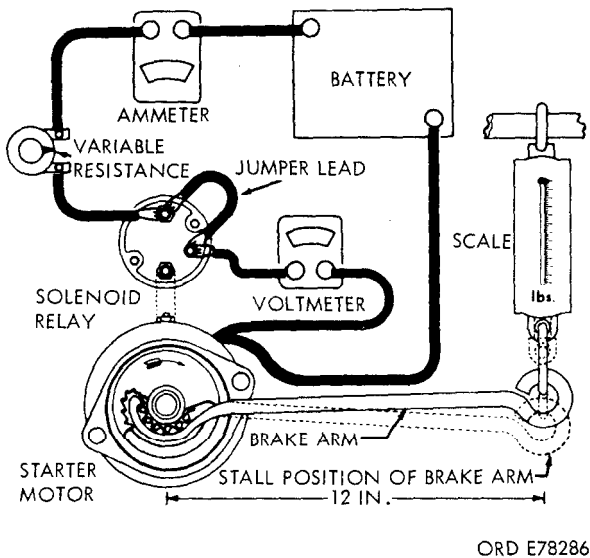

Figure 4-36. Lock-torque test wiring diagram.
b. *Lock-Torque Test.* Connect the starter as illustrated in figure 4-36. A variable resistance with a high current capacity should be used. The starter motor should be securely mounted and a brake arm hooked to the drive pinion. Use caution during this test to make certain the end of the brake arm does not slip off of the pinion when the current is applied. Lock-torque test is 22 pound-feet (rein) at 400 amperes, with the voltage at approximately 4.0 volts. If 22 pound-feet is not obtained, check for improper assembly of starter components, and for grounds and shorts in armature, field coils and brush holders.